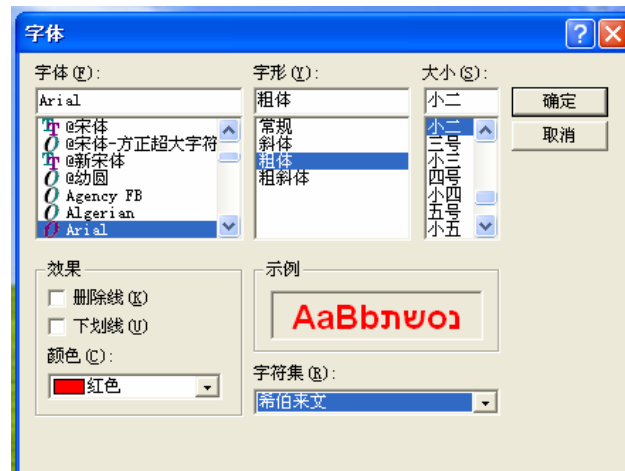

Figure 28 Font settings
- Setting Character font: click on the “Font” key, and it will be shown as Figure 28. Including style、font、 size、 color and so on, which can be previewed in the “Example”. After finishing the settings, clicking on “OK” to apply, or “Cancel” to give up.